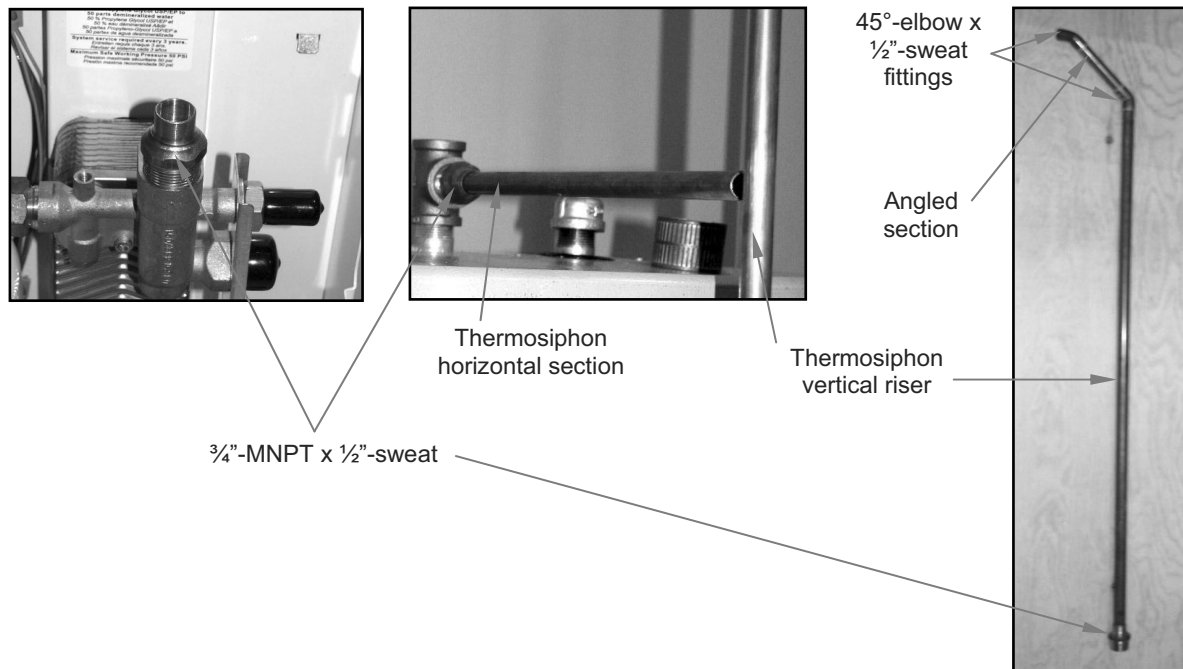

Fig.4.3.2 – Thermosiphon loop – horizontal and angled sections and vertical riser.
top of upper manifold and into middle port (horizontal) of hot port $\frac{3}{4}$ " FIP brass tee (Fig.4.3.2).
6. Thermosiphon loop requires two 45°elbow bends to facilitate natural convection. One 90° elbow is not acceptable. Cut pipe lengths to accommodate two 45°elbow x $\frac{1}{2}$ " sweat fittings with an angled pipe length between them. Thermosiphon loop will consist of vertical riser and horizontal section with angled (45°) section in between (Fig. 4.3.2). Adjust orientation of hot port $\frac{3}{4}$ " FIP brass tee to ensure a thermosiphon riser is vertical.